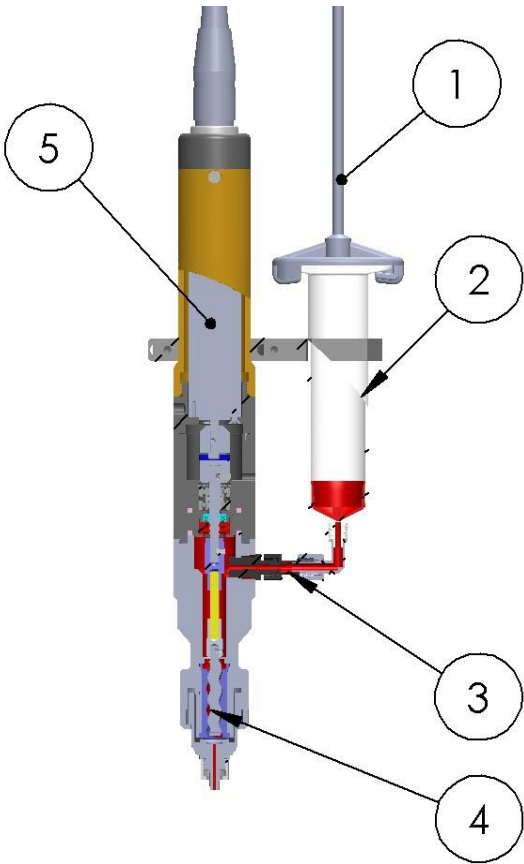

Figure 4.0
The TS8100M-METAL Series Positive Displacement pump dispenses fluid with a positive displacement action using a progressive cavity technology (see Figure 4.0). Fluid is held in a feed reservoir (2) under a positive head of air pressure, up to 30 psi (2.07bar), depending upon the viscosity of the fluid. This positive air pressure, supplied by the air line (1), forces the fluid out of the barrel (2) into the fluid feed path (3) then to the rotor/stator chamber assembly (4). Fluid flows from this point (4) to the dispense tip outlet and is controlled by the rotor rotation in the feed direction. The rotor is driven by the encoder DC motor (5). Applying a voltage signal to the motor (5), will rotate the rotor and the fluid will be forced out the dispense tip. The actual fluid deposited is dependent upon adhesion of the dispensed fluid to the substrate. Shearing of the fluid is achieved by reverse Z-motion (tip retraction). When the motor stops, the unit remains in position for a fraction of a second (dwell) to allow the last drop of fluid to flow out of the dispense tip. After the dwell period, the automation equipment moves the pump to the next position.